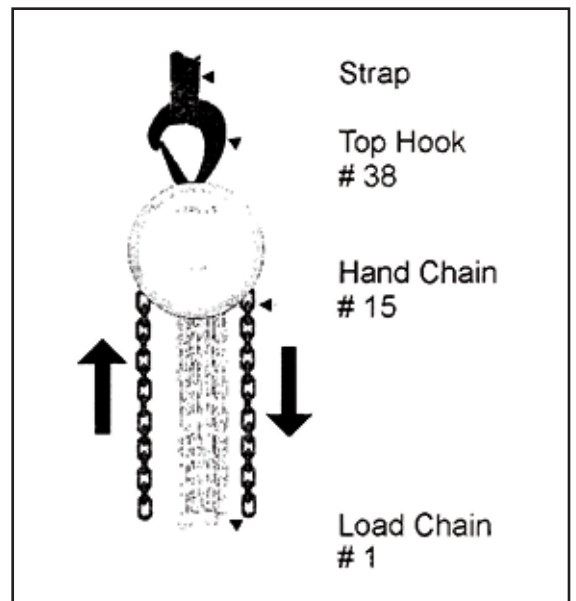

Figure 2- Raising the Load
- **Step 3.** Use the HAND CHAIN (#15) to raise the load so that it is barely lifted off the ground (see Fig. 2). Watch attentively the position of the load as the weight may shift.